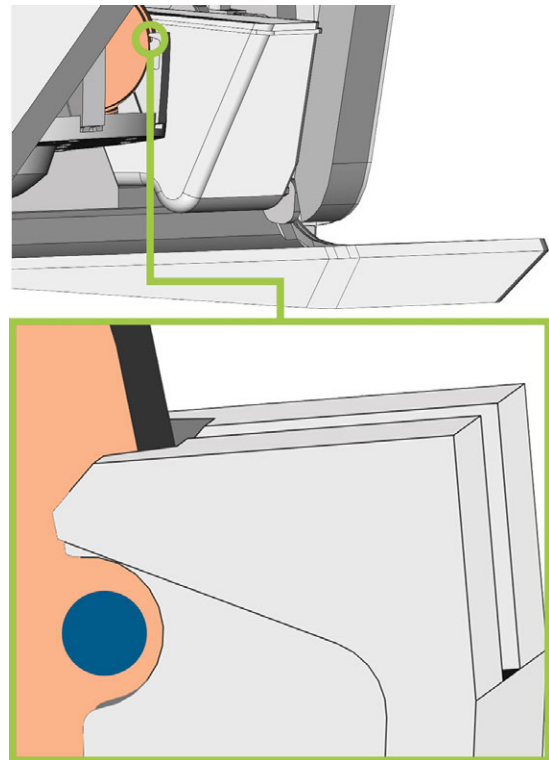

FIG. 55 THE MARKING FOR REMOUNTING (BLUE CIRCLE) LIES IN THE OPENING IN THE CLAMPING LEVER
10. Discs: If the disc has been marked for remounting, slightly rotate the disc until the marking lies in the corresponding opening in the clamping lever (Fig. 55 see below).